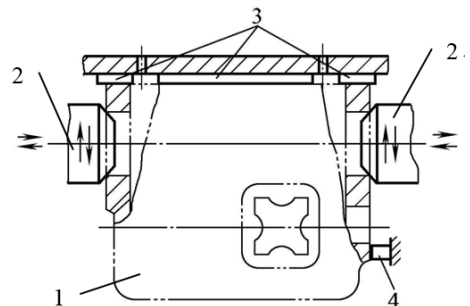

Figure 1
6. Figure 1 shows the positioning condition of transmission case 1. The positioning element consists of two taper pins 2 both movable from top to bottom and from left to right, bearing plate 3 and bearing nail 4. Please analyze (12 points):